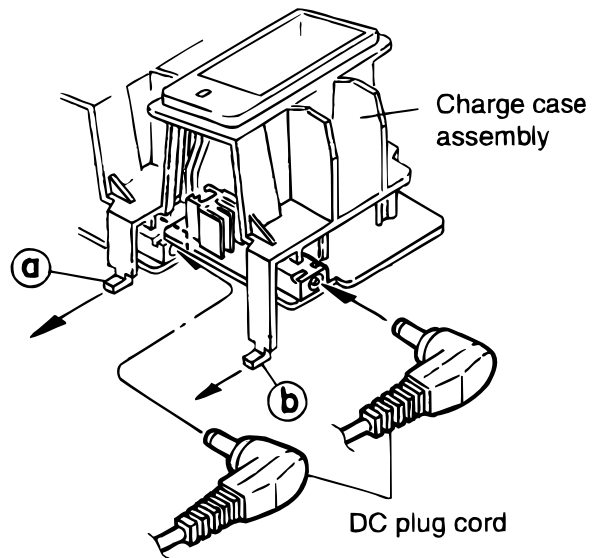

Fig. 8
■ Replacement of the DC plug cord (Figs.8 to 10)
2. Remove each charger assembly from the main unit and unplug the DC plug cord from each charge case (Fig.8).
2. To install the charge case assemblies, starting with the upper right block, set the fittings a and b at the two positions on each charge case assembly (Figs.8 and 11).